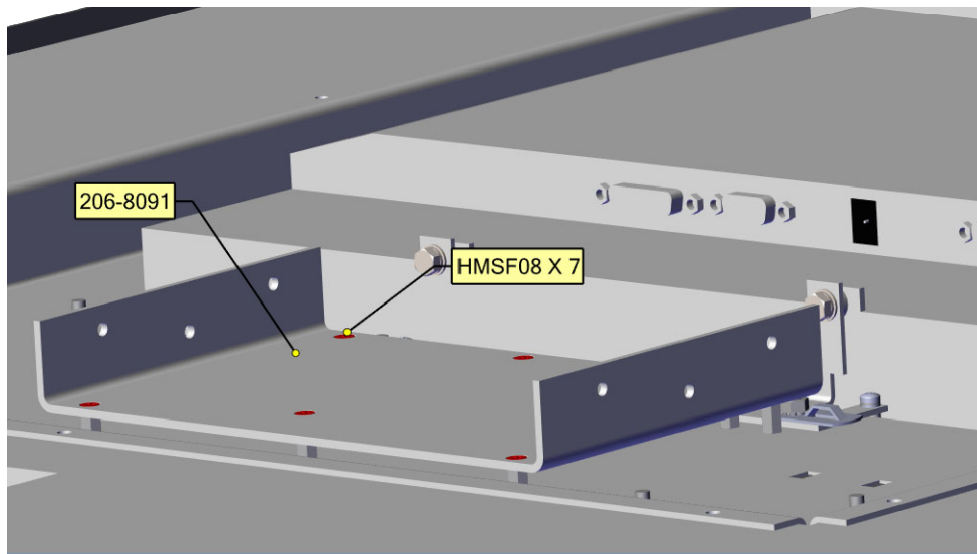

Figure 5: SBC Bracket Installation
- (j) Install the new SBC Mounting Bracket (Nautel part # 206-8091) using the seven (7) M4 screws (Nautel part # HMSF08). See Figure 5.